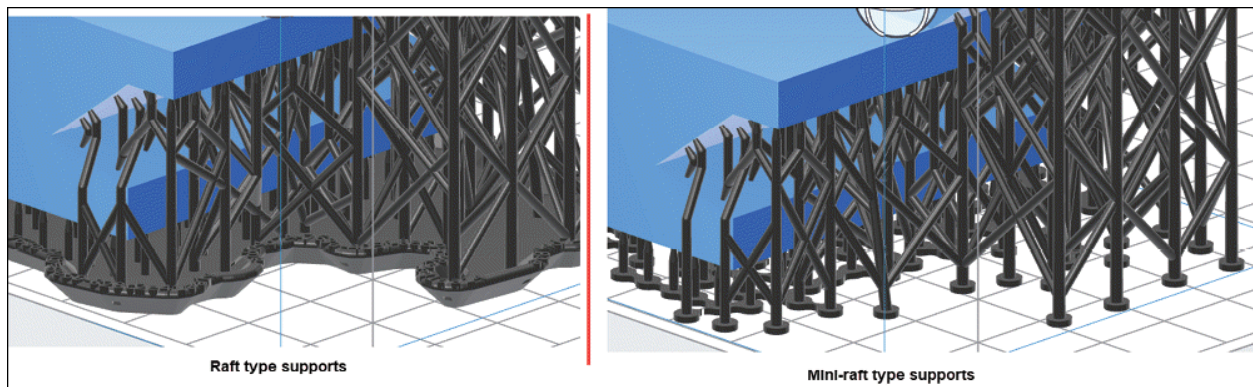

Figure-59. Raft types for supports
- Select the **Mini-Rafts** option from the **Raft Type** drop-down if you want to mini-rafts for supports; refer to Figure-59.